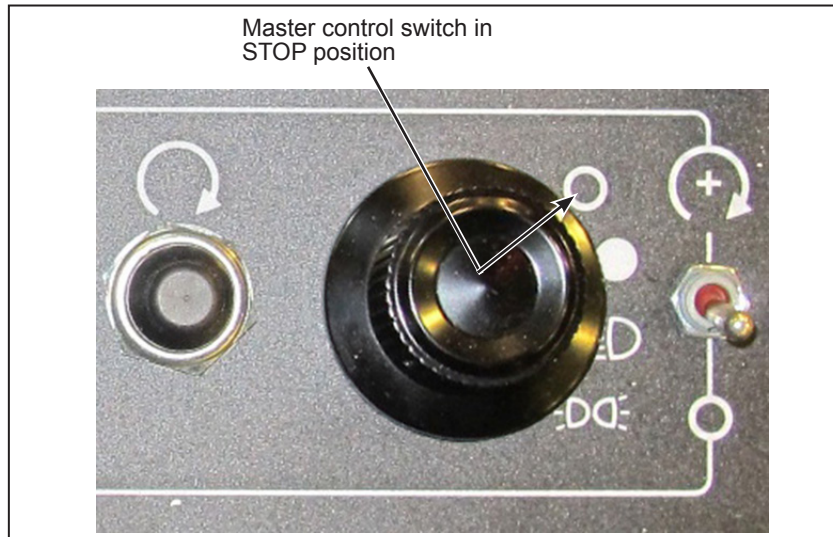

Figure 1 - Master control switch position
- 1.2. Set the Master control switch in the stop position (see Figure 1).